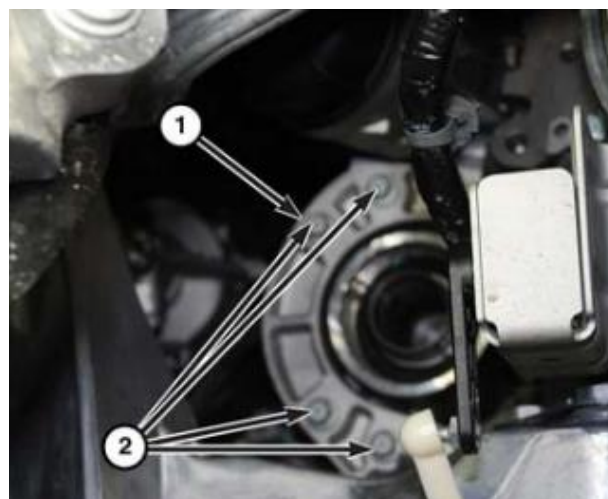

Figure 33 – PTU Support Bracket
12. Remove the fasteners (2) holding the PTU support bracket (1) to the PTU (Figure 33).
7. Install the fasteners (2) to hold the PTU support bracket (1) to the PTU and tighten to 22 N·m (16 ft. lbs.) (Figure 33).